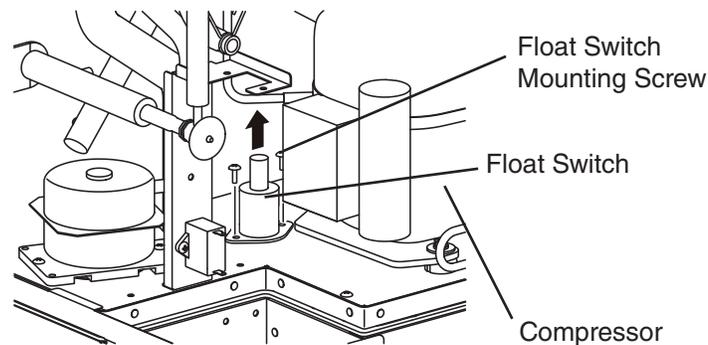

Fig. 3
- 4) Locate FS on the compressor base. See Fig. 3. Remove the screw securing FS to the compressor base and lift FS from the icemaker.